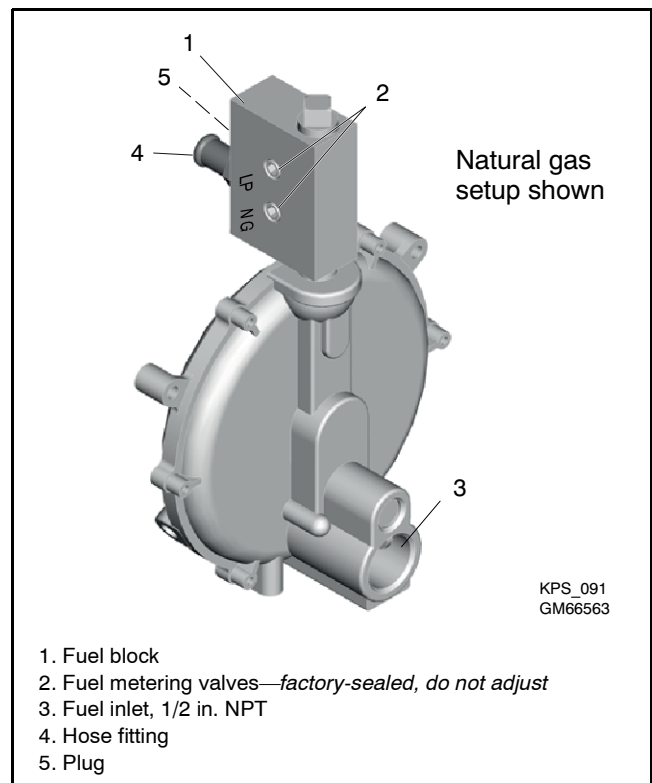

Figure 5-26 Fuel Block
Use the following procedure to convert from natural gas (NG) to LPG. See Figure 5-26 for the fuel system component locations.
5. Remove the hose clamp and fuel hose from the hose fitting in the fuel block. See Figure 5-26.
6. Remove the hose fitting from the natural gas outlet port in the fuel block. See Figure 5-26.
7. Remove the plug from the LPG port in the fuel block. See Figure 5-26.
The fuel system is factory-adjusted to comply with applicable emission standards and to provide the best possible hot and cold starting. The fuel metering valves are sealed to prevent field adjustments. If the fuel metering valve requires adjustment, do not break the seals on the factory-installed fuel metering valve. Obtain a new fuel metering valve to replace the factory-installed valve, and adjust the fuel mixture according to the instructions in this section. See Figure 5-26 for the fuel metering valve location. Refer to the generator set Parts Catalog for the fuel metering valve part number.